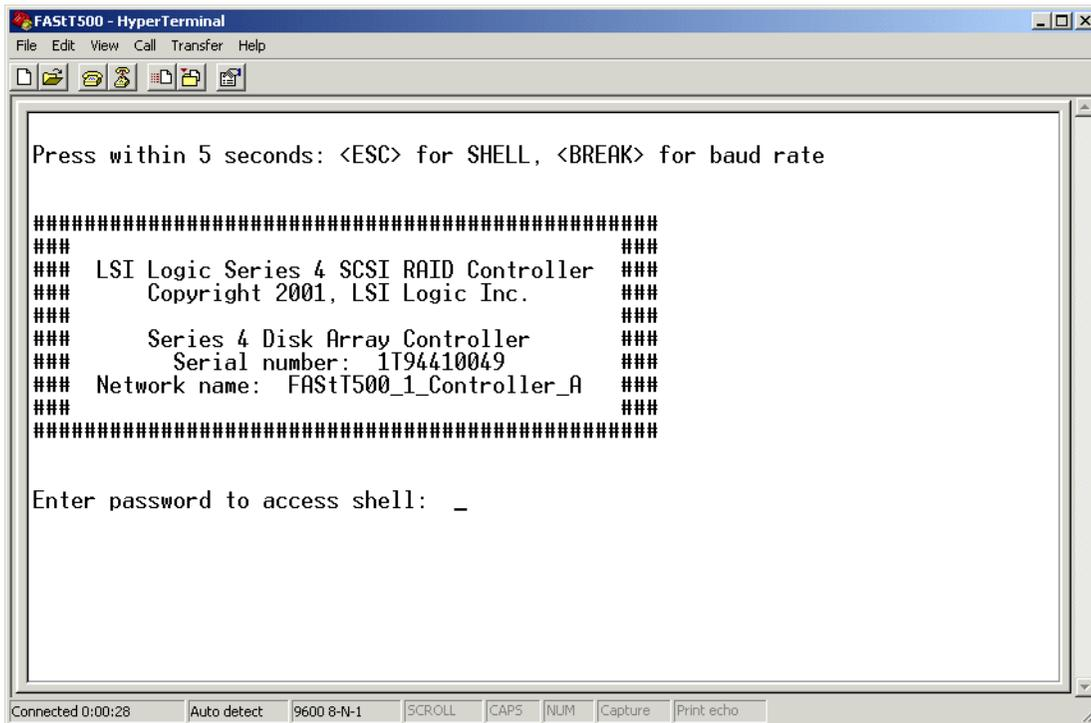

Figure 5-4 FASt500 password prompt
8. Press the Esc key to display the FASt500 Shell login window as shown in Figure 5-4: